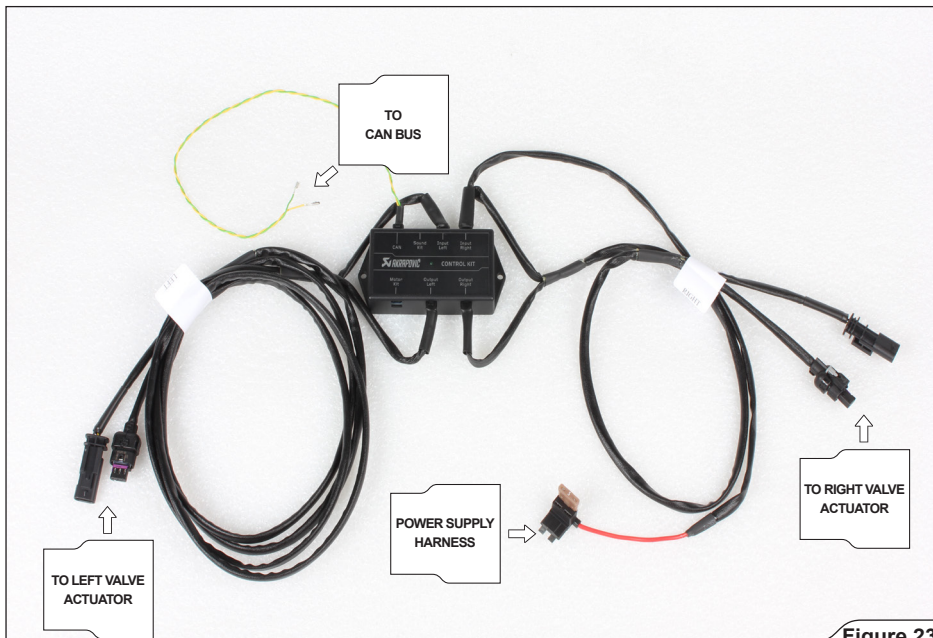

Figure 23
1. **For Installation of Akrapovič Control Kit components only:** disassemble the vehicle's Can Bus connector, insert the Control Kit unit's wires exactly as shown, locate the marked fuse (**fuse panel D, fuse position nr.5**), remove it, put it in the free fuse spot on the Sound kit's power supply connector and connect the Sound kit's connector back to the **fuse position nr.5** (**Figure 23, 24, 25, 26, 27, 29**).